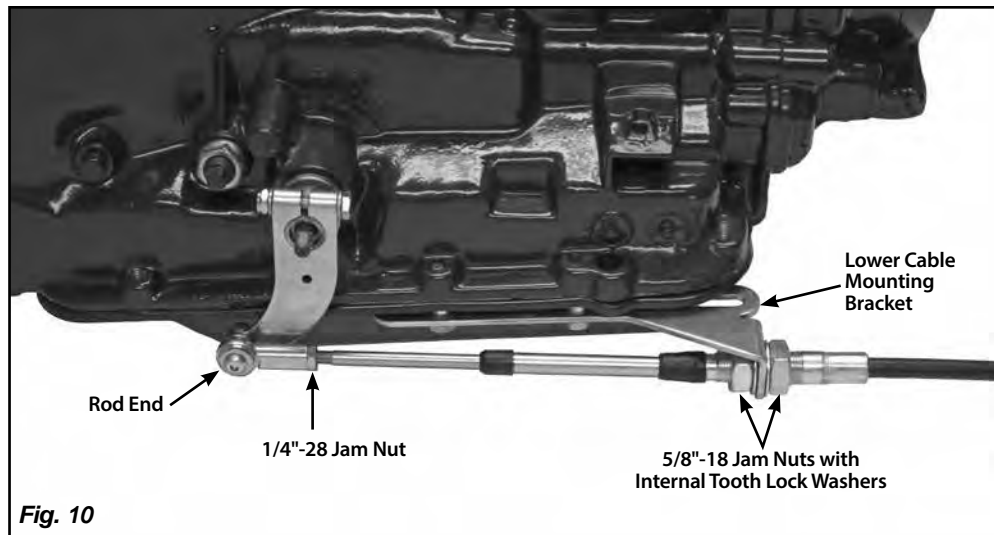

Fig. 10
Step 11: Make sure that the shifter and the transmission are both in Park. Attach the rod end at the transmission to the trans arm using a 1/4"-28 x 1" button head bolt, flat washer, rod end spacer, and nylock nut. The rod end will be positioned on the outside of the trans arm, away from the transmission. The rod end spacer goes in between the rod end and the trans arm. The button head bolt can be installed from either direction, but make sure the rod end is sandwiched between the flat washer and the rod end spacer. **Fig. 10 & 11**